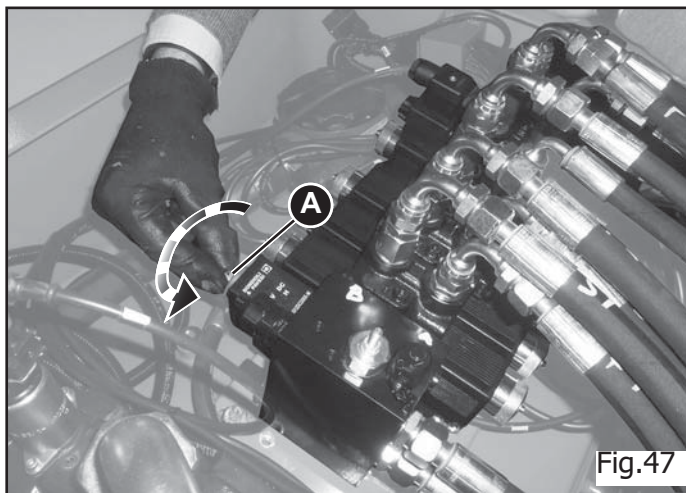

Fig.47
- 7) Tighten the solenoid valve latch (A Fig.47) at input distributor inlet that bypasses the input capacity of the distributor (in order for the latter to have a constant capacity);